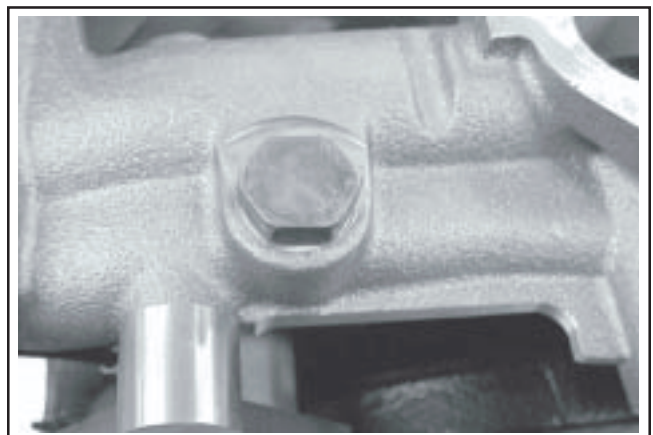

Figure 11-59. Plug in Intake Manifold (for Temperature Sensor).
4. Install and tighten the pipe plug or temperature warning switch, if removed previously from the threaded port of the intake manifold. Use **pipe sealant with Teflon®** (Loctite® 59241 or equivalent) on the threads. Torque to **22.6 N-m (200 in. lb.)**. See Figure 11-59.